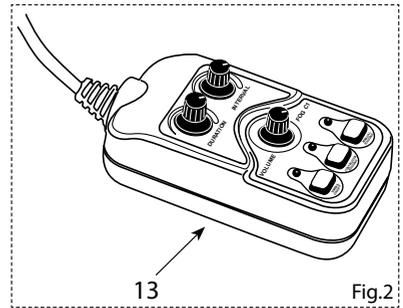

Fig.2
13. FOGC1 controller (included) (fig.2).